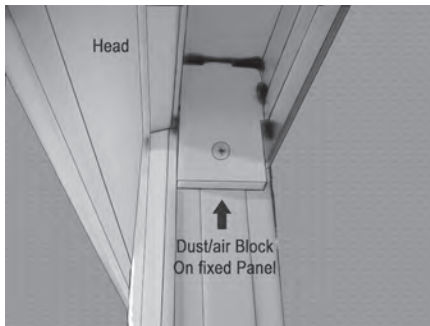

Fig. 15
- 1) Place dust block (L) at top of fixed panel, pre-drill with 1/8 bit and fasten block with one #8 x 1-1/4" pan head painted screw (B). (Fig. 15)